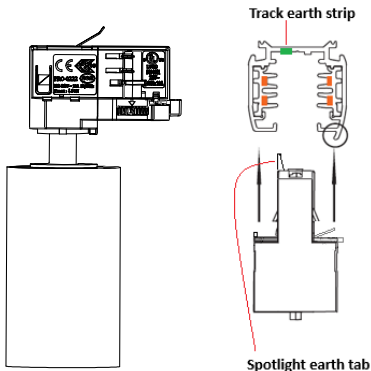

Fig. 1
- Provide powered track to the required point of installation. Check it is compatible for spotlight (Fig. 1)
- Once spotlight fully-in, turn securing lever anticlockwise (Fig. 2B) until fully locks and spotlight secure. Note: If lever very stiff or when fully turned spotlight not secure, check orientation or track is compatible. (Fig.1)